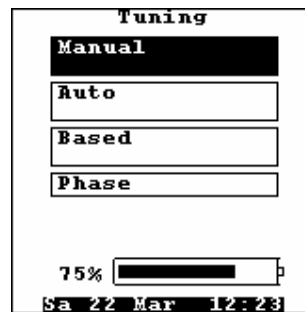

Fig. 14
4. Select TUNINGS mode and press ENTER key. Four options are available here – **Manual**, **Auto**, **Based** and **Phase** (Fig. 14). Tunings may be performed in four modes: in manual mode the optimal tuning parameters are selected by operator; in auto mode the optimal signal frequency are set by the device; in based mode the new tuning parameters are selected from a previously saved tuning; in phase mode the information about the phase of the received signal is used only.
4. Enter the TUNINGS mode of WORK menu. TUNINGS mode menu appears (Fig. 14). Select **Auto** mode and press ENTER.
4. Enter the TUNINGS mode of WORK menu. TUNINGS mode menu appears (Fig. 14). Select **Based** mode and press ENTER. The parameters of the first saved tuning into archive appears on screen (Fig. 23).